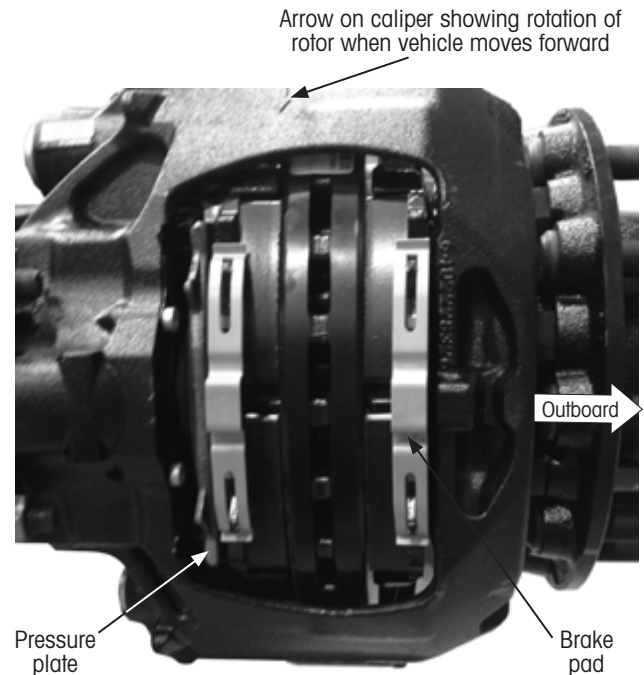

Figure 20: Removing outboard brake pad
10. **Manually push** the brake caliper outboard and remove the outboard brake pad (Figure 20).